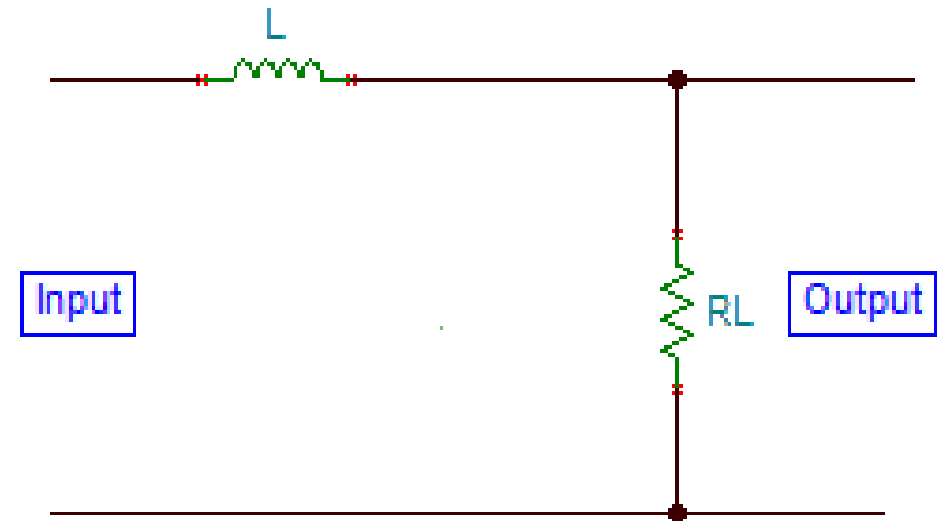

Figure 1: Inductor Filter
- The inductor filter is shown in Figure 1.